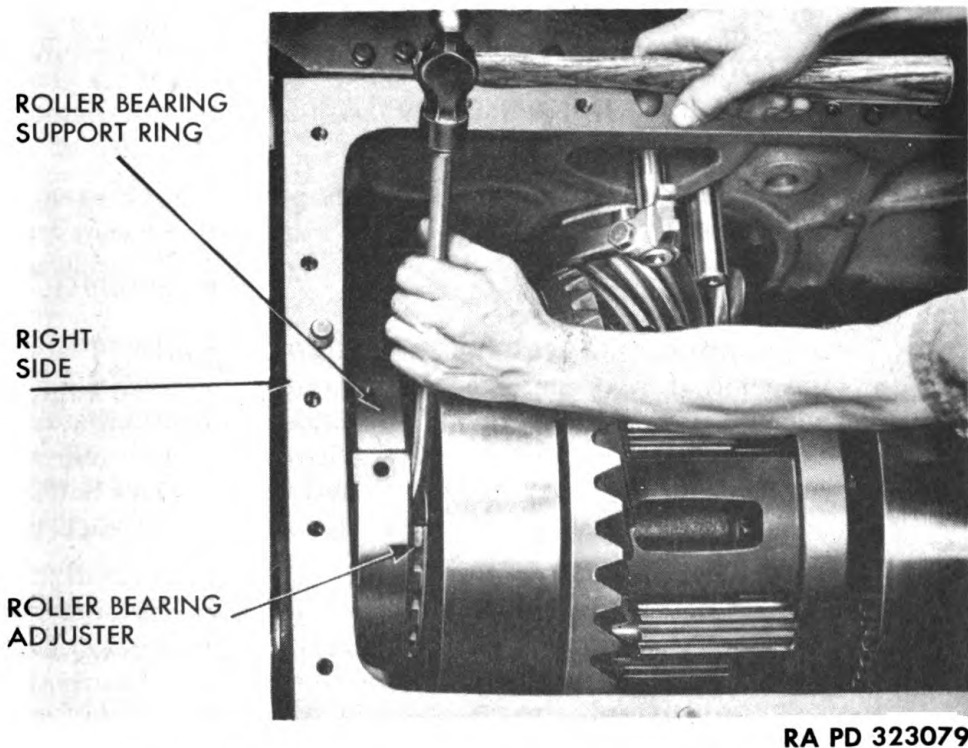

Figure 79 — Turning Roller Bearing Adjuster
m. Relieve Preload on Differential Roller Bearings. Remove cap screw and lock washer securing each roller bearing adjuster lock, and remove the two locks (fig. 72). Turn each roller bearing adjuster counterclockwise until it is loose (fig. 79), so that differential can be moved sideways (fig. 104).